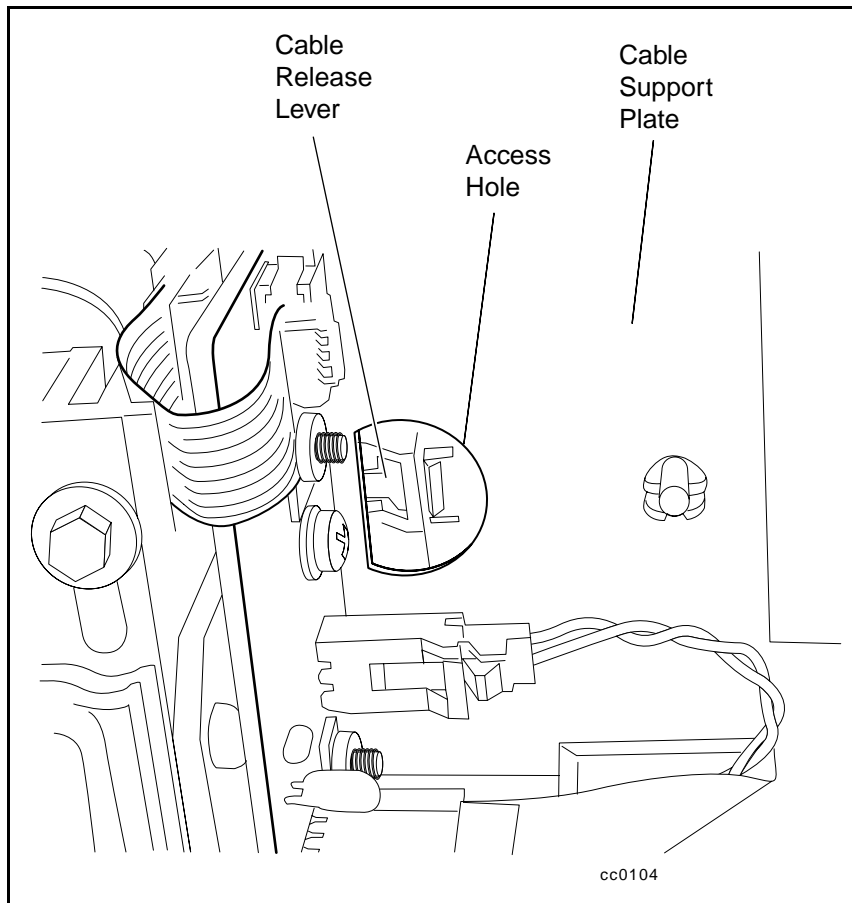

Figure 5-34. Cable release lever
5. Push in on the cable release lever, accessed through the hole in the cable support plate (see Figure 5-34).
4. Reconnect the shuttle mechanism cable (see Figure 5-34).